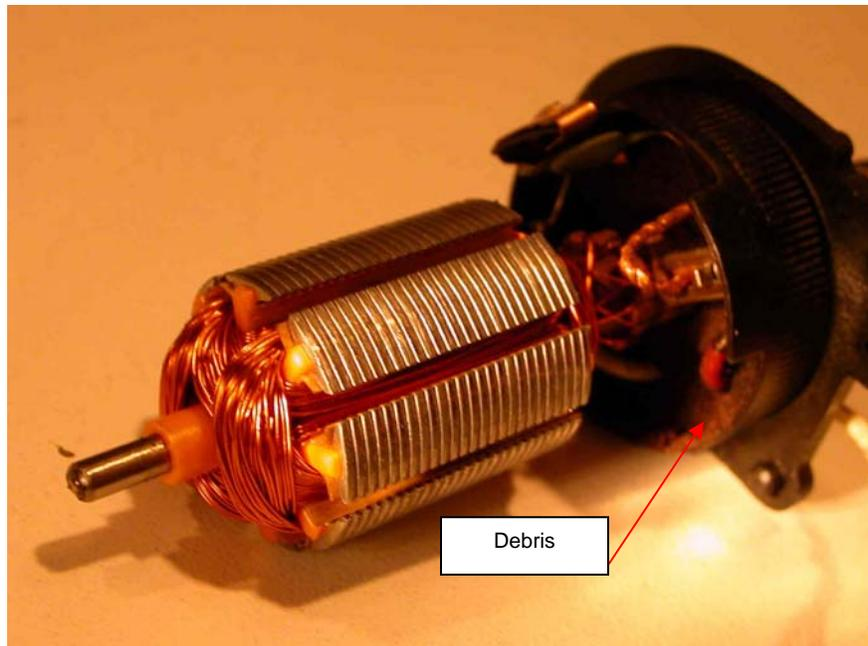

Fig. 10
10. Look closely at the motor windings, brushes, etc. Mine had copper and carbon debris near the brushes and on the black-plastic end piece. I suspected these might be the source of the intermittent operation (Fig. 10). Everything else looked pristine. There were no adjustable components on the circuit board.